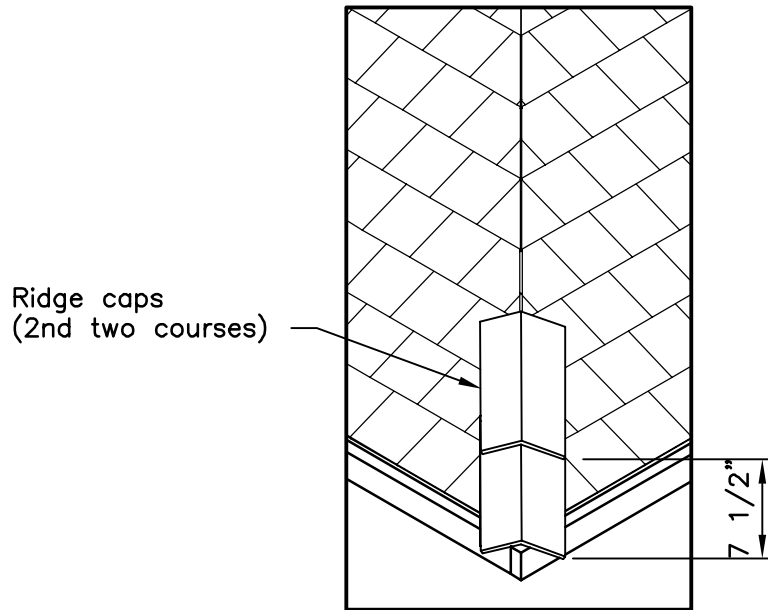

FIGURE S34
- Figure S34 shows how the 2nd course of the ridge caps will be applied. Remember to leave $7\frac{1}{2}$ inches to weather.